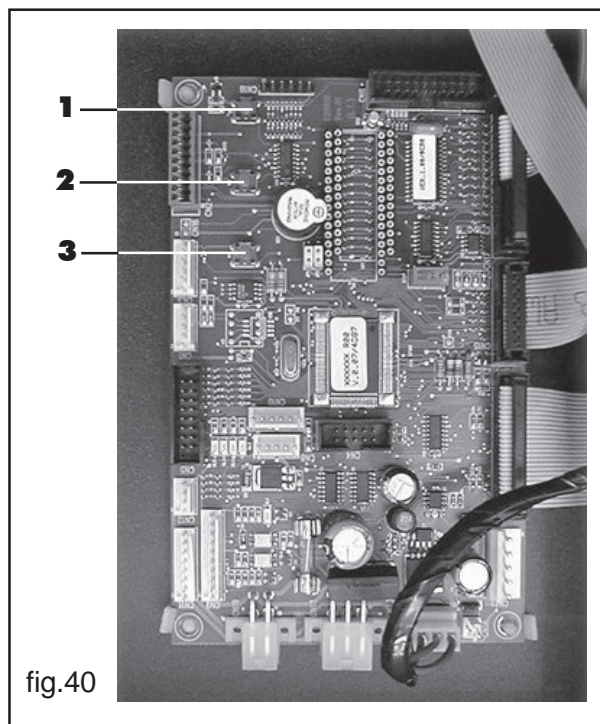

fig.40
Open the door, insert the key into the safety switch (fig.18) and press key **P1**, located on the CPU card (fig.40, ref. 1) so as to enter the programming menu.